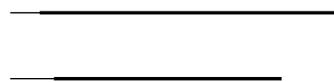

Figure 1.
1. Cut two pieces of insulated copper wire, about 10 cm and 12 cm, respectively. Strip about 1.5 cm of insulation the end of the shorter wire and about 1 cm off the end of the longer wire (Figure 1).